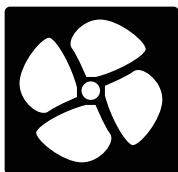

Fig. 14 -
2. Removable strainer for cleaning (Fig. 14),